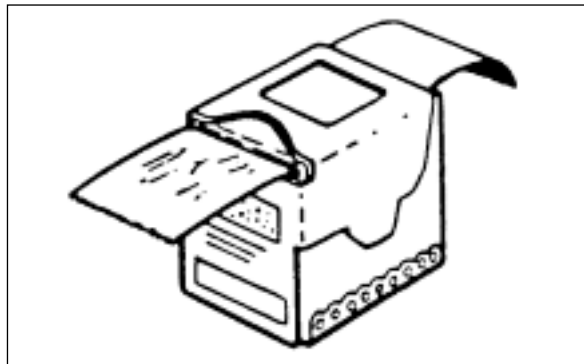

Fig 4-5. M9 detector tape.
- (1) The M9 detector tape (fig 4-5) consists of a roll of detector tape 2 inches wide by 30 feet long in a dispenser with a resealable plastic bag. The adhesive-backed detector tape contains a detector dye suspended in the paper. When droplets of a liquid chemical agent touch it, the detector produces a contrasting color change from green to pink or red.